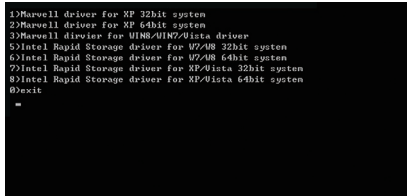

Figure 2
- 3: Insert the blank formatted disk (if you're using a USB floppy disk drive, make sure it is designated as drive A). Select the controller driver by pressing the corresponding letter from the menu and press <Enter>. For example, from the menu in Figure 2,